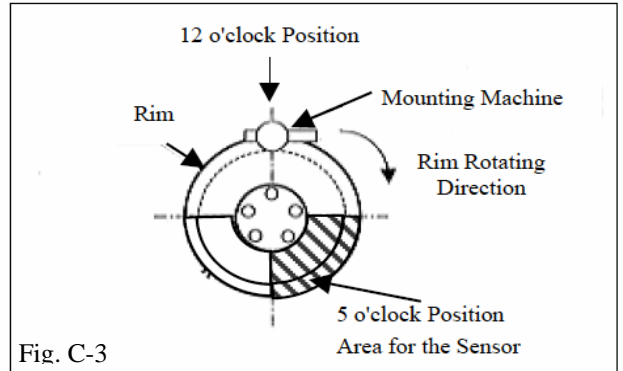

Fig. C-3
4. Re-position the wheel on the mounting machine with the sensor at ~ 5 o'clock position (shaded area in Fig. C-3)